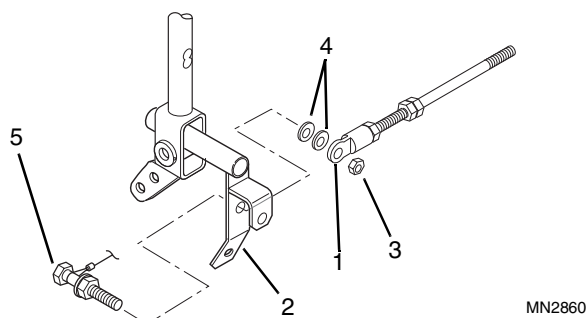

Figure 7-48 Spring Centering Link Removal
3. Disconnect the spring assembly link rod ball joint (Fig. 7-48, 1) from the right travel/steering lever 4-way pivot (2) by removing locknut (3), washers (4), and capscrew (5). Loose assemble the washers and locknut to the capscrew, and let it hang by the back-up alarm tether.